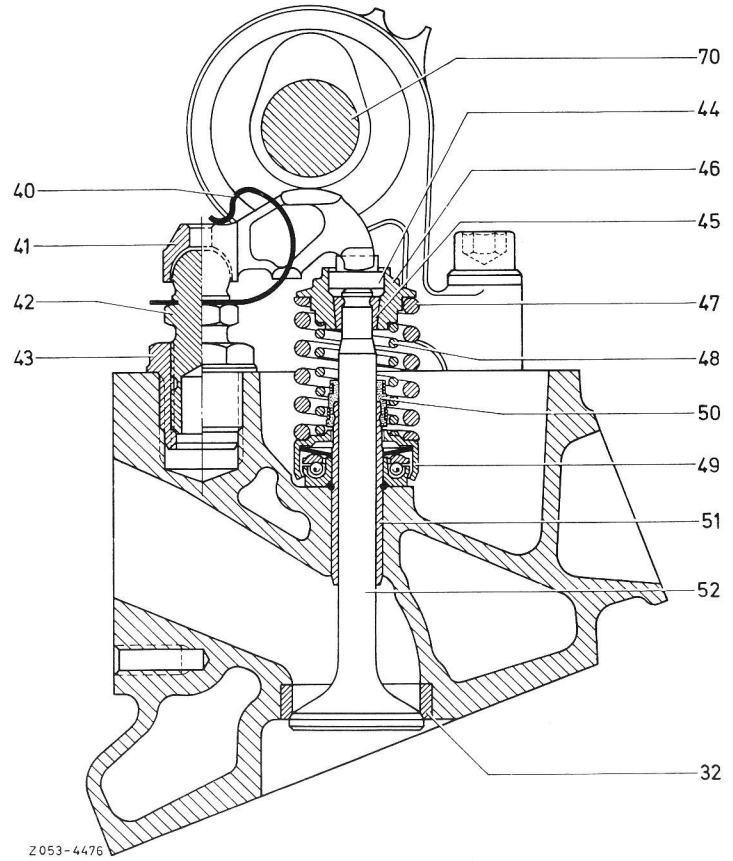

Fig. 4
- 5 Remove rocker arm (41) from adjusting screw (Fig. 4).
6 Position removal and installation tool against camshaft and on valve spring retainer and push valve down until the ball socket of the rocker arm can be fitted to the ball of the adjusting screw (Fig. 4).
8 Install tensioning spring (40). The tensioning spring should enter into the recess provided on the adjusting screw (42) (Fig. 4).
10 Upon termination of adjusting jobs, check tensioning springs (40) for correct seat (Fig. 4).